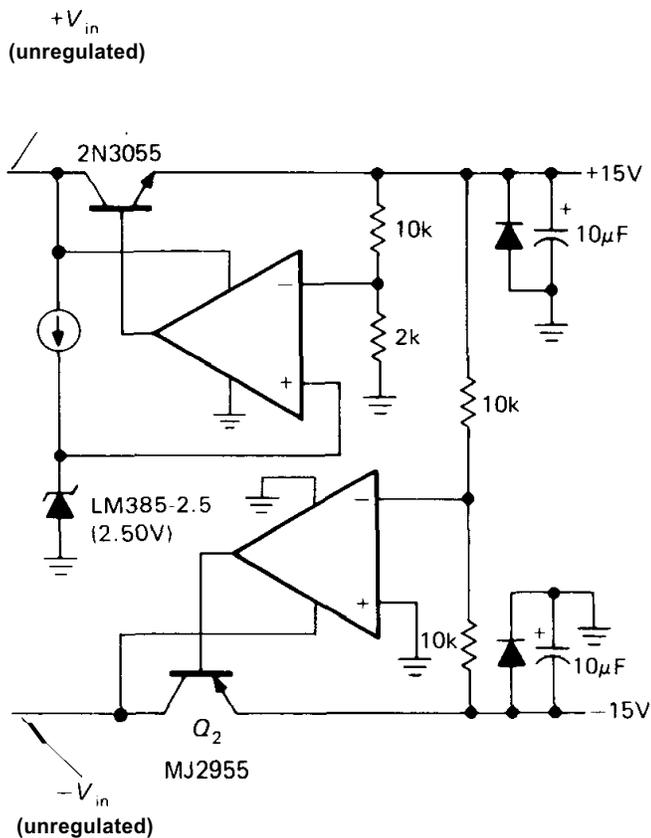

Figure 6.34. Dual-tracking regulator.
- **Dual tracking regulators.** Given the need for regulated split supplies, you might wonder why there aren't "dual 3-terminal regulators." Wonder no more – they exist and are known as "dual tracking regulators." To understand why they have such a complicated name, take a look at Figure 6.34, which shows the classic dual tracking regulator circuit.  $Q_1$  is the pass transistor for a conventional positive regulated supply. The positive regulated output is then simply used as the reference for a negative supply. The lower error amplifier controls the negative output by comparing the average of the two output voltages with ground, thus giving equal 15 volt positive and negative regulated outputs. The positive supply can be any of the configurations we have already talked about; if it is an adjustable regulator, the negative output follows any changes in the positive regulated output. In practice, it is wise to include current-limiting circuitry, not shown in Figure 6.34 for simplicity.